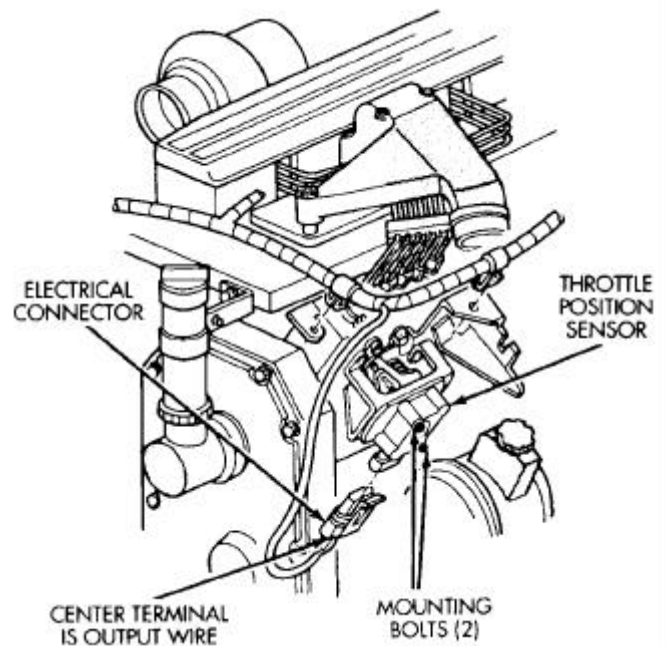

Figure 1
4. **For trucks equipped with an automatic transmission**, disconnect the Throttle Position Sensor (TPS) electrical connector, remove the two TPS attaching bolts and then remove the TPS (Figure 1).
50. **For trucks equipped with an automatic transmission**, install the Throttle Position Sensor (TPS) and tighten the two mounting screws. Then connect the TPS electrical connector (Figure 1).
NOTE: The TPS is spring loaded. After positioning the TPS on the mounting bracket, rotate the TPS in a counterclockwise direction until both mounting holes align (Figure 1).